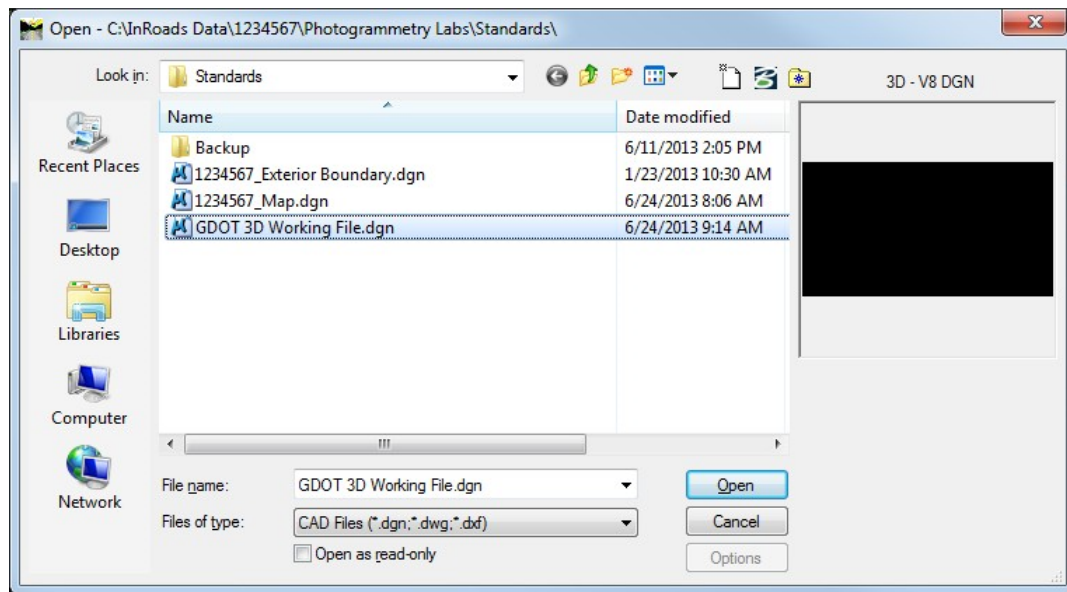
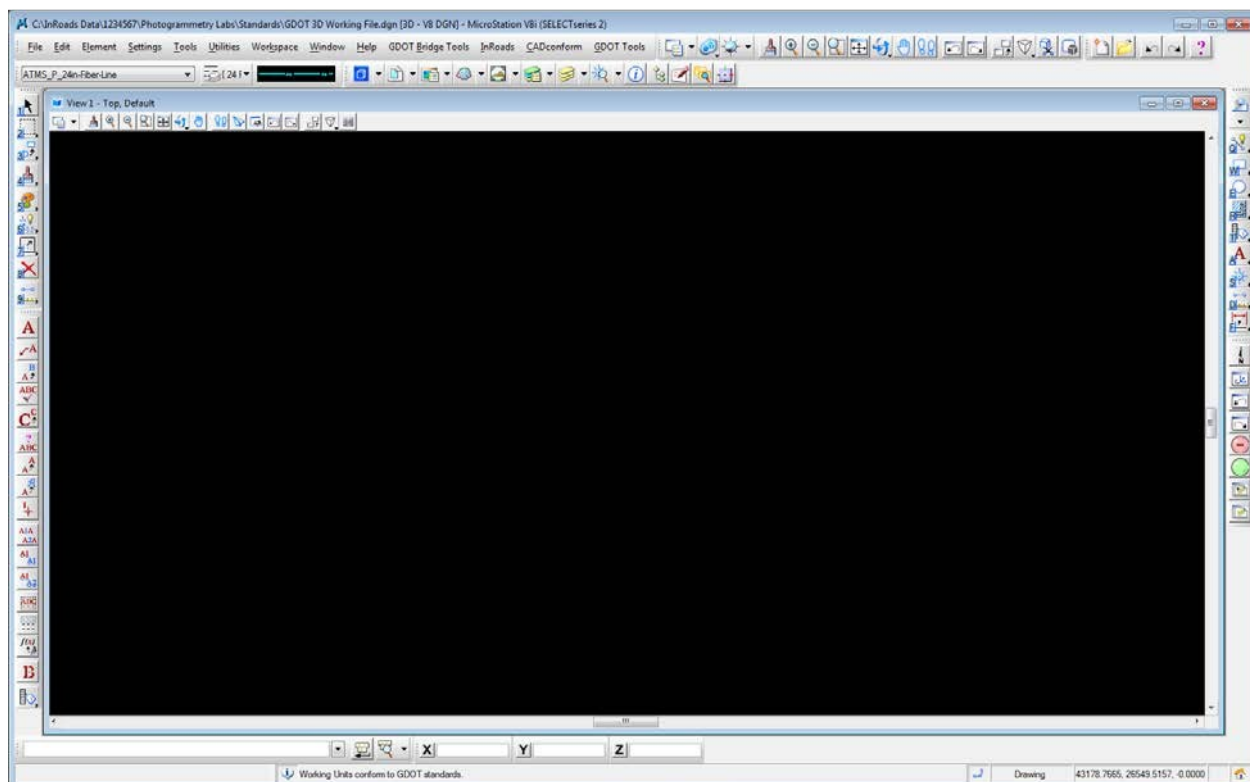

Figure L1-1 Starting MicroStation V8i and InRoads Suite V8i
Figure L1-2 Main MicroStation V8i Window
*After the **MicroStation** Splash Screen appears, the **MicroStation Manager** dialog (See Figure L1-1) will open so that you can select a “**Working**” DGN file. Once **MicroStation** is up and running, your desktop should look similar to that of Figure L1-2.*